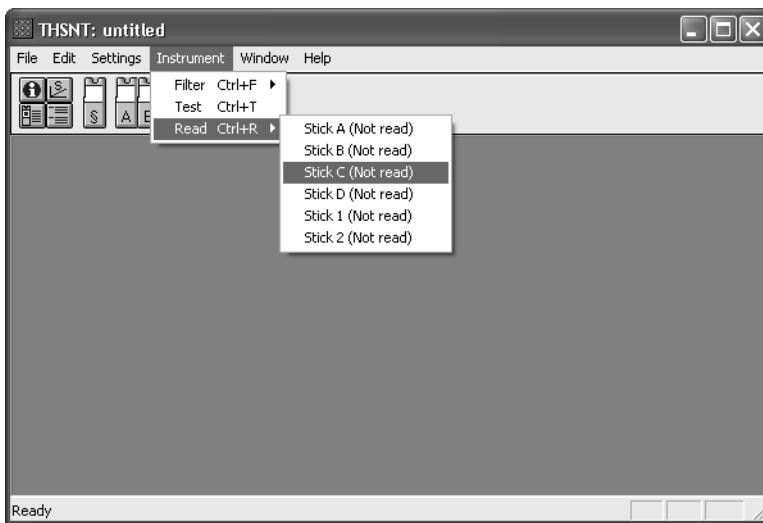

Figure 3-13: Stick List Menu
- 2) Use the mouse to select a stick to read in the stick list menu (Figure 3-13). The Threshold Enterprise / Software will perform the self-diagnostic tests.